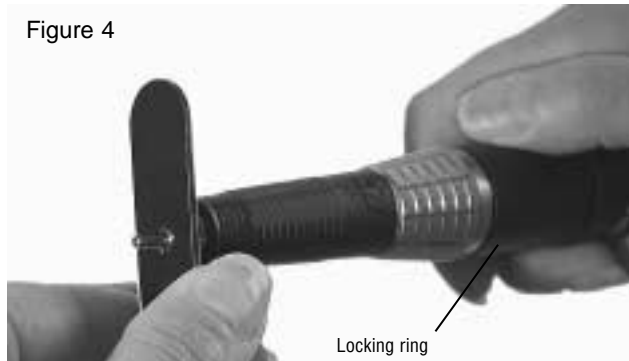

Figure 4
2. Place collet changing wrench over front of collet with triangle shaped hole aligned as shown in Figure 4.